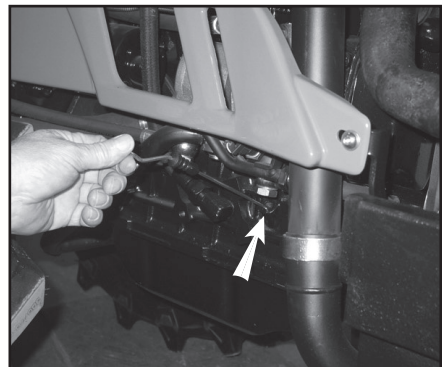

Fig. 6.8
- Verify all of the oil levels (Fig. 6.8) and, if necessary, replenish with the prescribed type of oil.